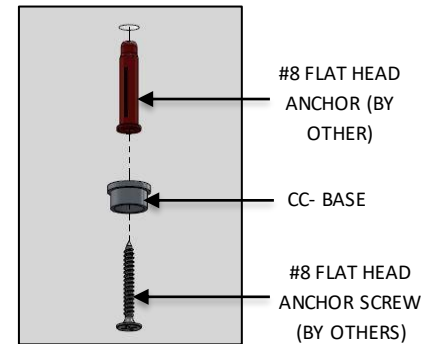

FIG. 7 - HARD CEILING INSTALLATION
3. Install the CC-BASE to the #8 FLAT HEAD ANCHOR (by others) previously installed at the non-powered mounting location and secure with the #8 FLAT HEAD ANCHOR SCREW (by others) as shown in FIG. 7.